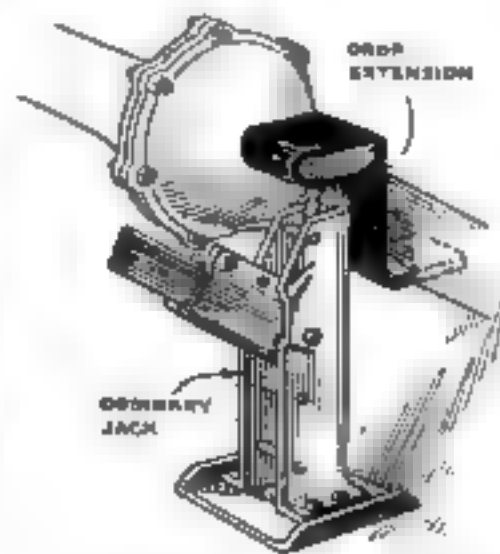

Fig. 4. Heavy strap iron is bent to make drop extension for jack
5. "Tack" the 1 by 3 in. rails on the posts to hold them the proper distance apart at the top (see Fig. 4).
10. Put beams, rafters, and roof slats in position (see Fig. 4).
Fig. 4 The dimensions given need not be followed but should serve to give an idea of the general proportions of the structure. Redwood is one of the most durable woods to use for pergola construction.
FIGURE 4 shows a way to form a drop extension out of a heavy piece of strap iron. This drop extension will prove extremely useful in cases where it is necessary to get under the axle when the jack itself is too high. Do not attempt to make the drop extension out of light strap iron. The steel must be so thick that there will be no chance of the weight bending the lower angle and permitting the axle to slip.